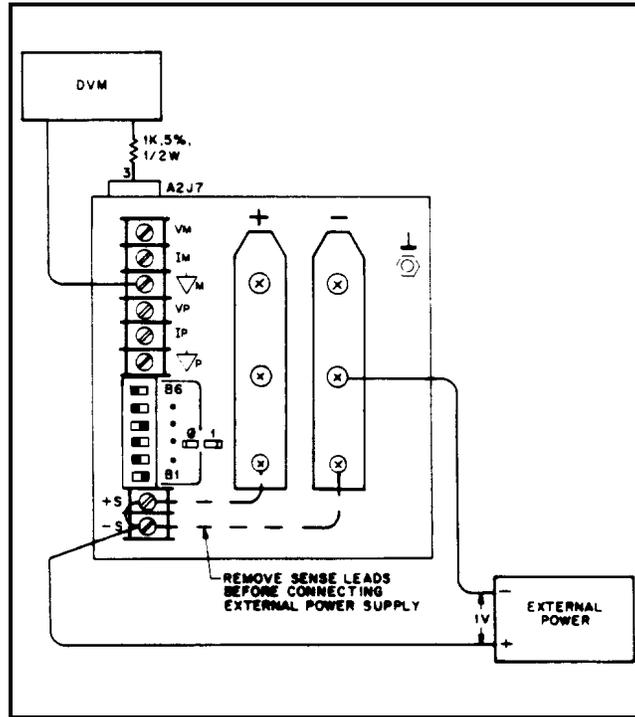

Figure 2-1. Common Mode Setup
- Remove both local sensing straps from rear-panel terminal block, and connect a 1-volt external power supply with its + lead to - S and its--lead to - Out. See Figure 2-1.
- a. Attach the DVM from ∇ M on the rear panel to A2J7 pin 3 (V-MON buffered). See DVM connection in Figure 2-1.